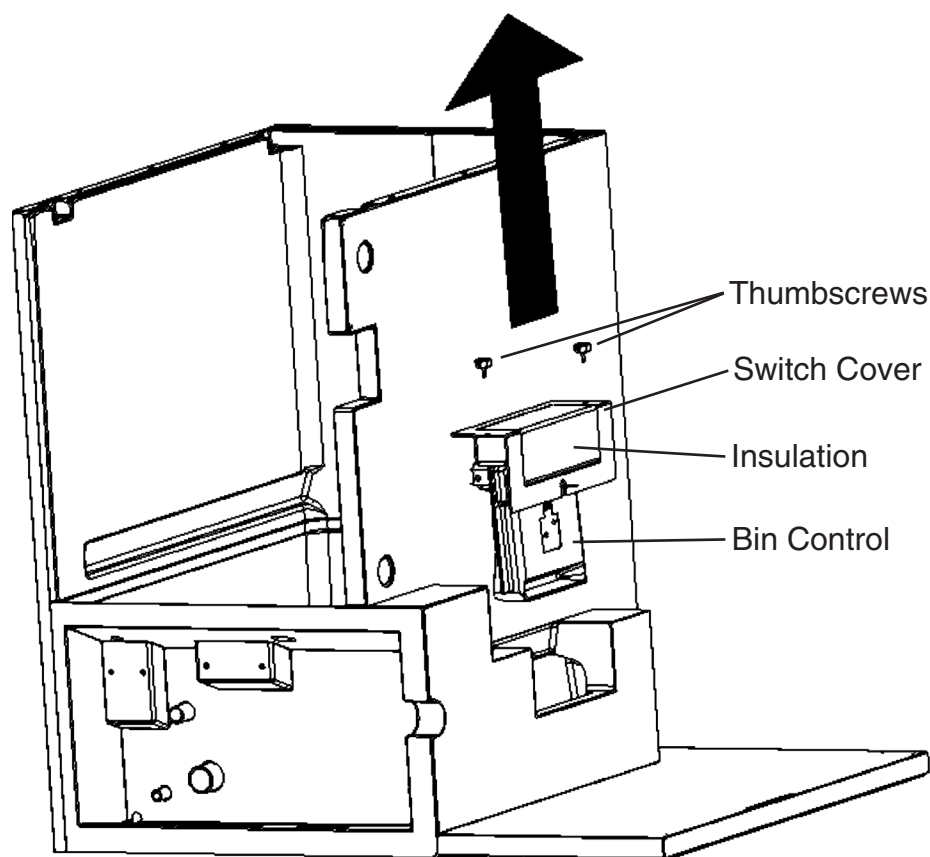

Fig. 6
- 5) Remove the two thumbscrews securing the switch cover. See Fig. 6.